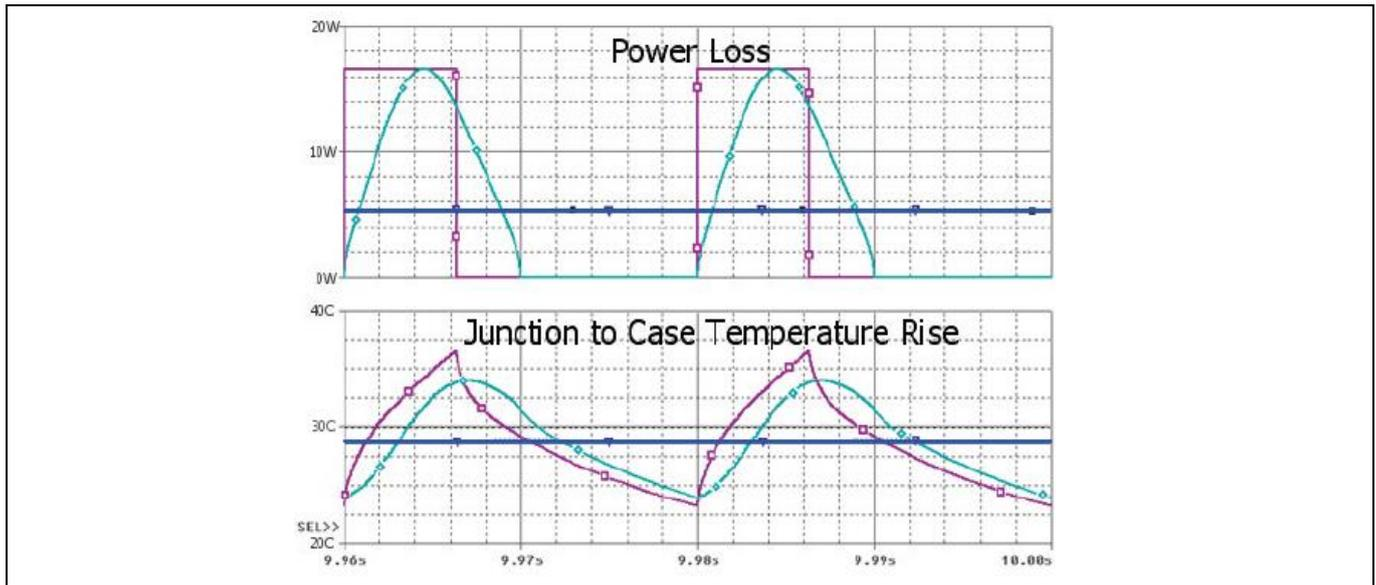

Figure 29 Junction-temperature calculations under sinusoidal modulation
- This coefficient is strongly dependent on the air flow velocity, as shown in Figure 29. If externally induced, air flow is used to aid in the transfer of heat; this is called forced convection. Otherwise, the transfer of heat with no additional help is considered natural convection. Heat sinks with very small fin spacing do not allow a good air flow. If a fan is used (forced convection), then the fin gaps of the heat sink may be reduced, as the fan forces the air through the space between the fins.